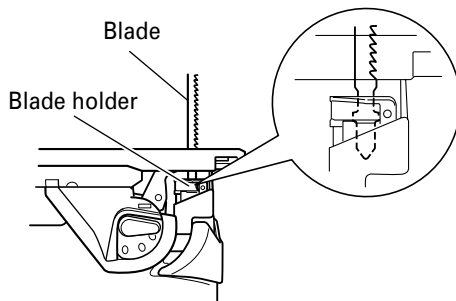

Fig. 7
- Confirm the protrusions of blade inserted to the blade holder surely. (Fig. 7)